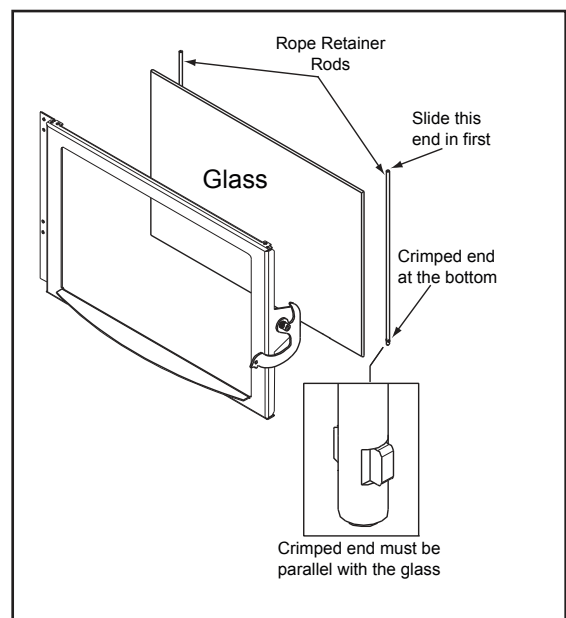

Figure 20.2
- Slide the retainer rod into the top hole first, and then line up the bottom crimped end with the hole in the door. The crimped end must be parallel with the glass in order to insert it into place. **Figure 20.2.**